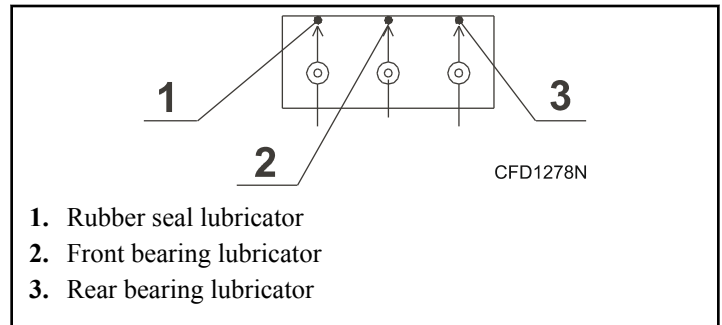

Figure 60
1. **33 kg/ 75 lb/335 L, 40 kg/90 lb./400 L and 55 kg/125 lb./520 L models** - Using a multipurpose lithium lubricant containing high pressure consistency addition (NLGI or ES-SO - BEACON EP 2) lubricate seal and bearings with 2 strokes (2 cm³) while the basket is rotating at wash speed. Refer to *Figure 60*.